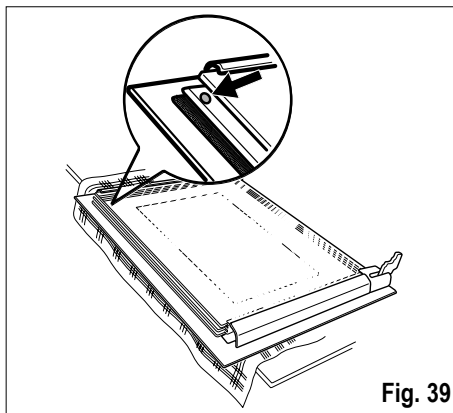

Fig. 39
9. To check if this operation has been carried out correctly, when inserting the glass, make sure that the surface of the glass marked with a black frame looks upwards and that the dot is located on the upper left corner of the glass (see Fig. 39).